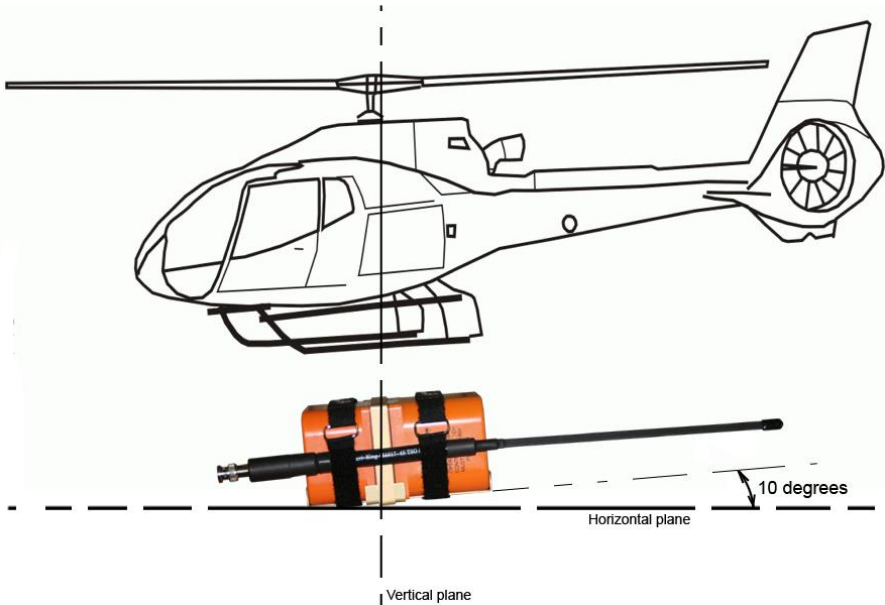

Figure 1.1: Direction Determination for Helicopter
The AK-451-(14)(15)(17)(18) may be mounted so that the arrow aligns with the longitudinal axis of the aircraft. If necessary, the ELT may be tilted Nose down up to 10 degrees, (see Figure 1.1). The ELT mount may be rotated about the aircraft center axis, i.e., the ELT can be mounted on the floor, walls or over head, so long as it ‘points’ to the front of the aircraft.